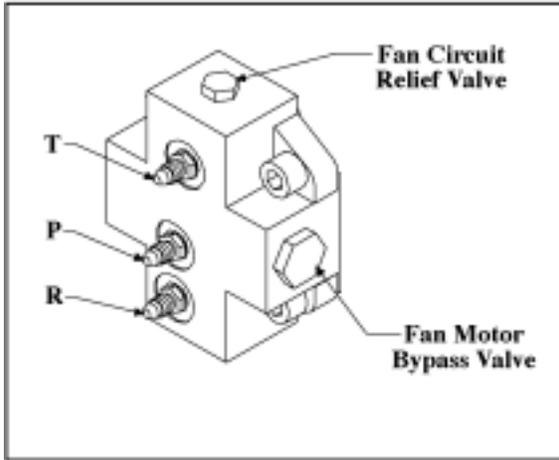

Figure 1.1—Fan Motor Control Valves
1. Hydraulic circuits that start at port P and stops at port R on the fan motor control valve. **Figure 1.1—Fan Motor Control Valves.**
Port T of the fan motor control valve is connected to the bottom of the reservoir. **Figure 1.1—Control Valves.**